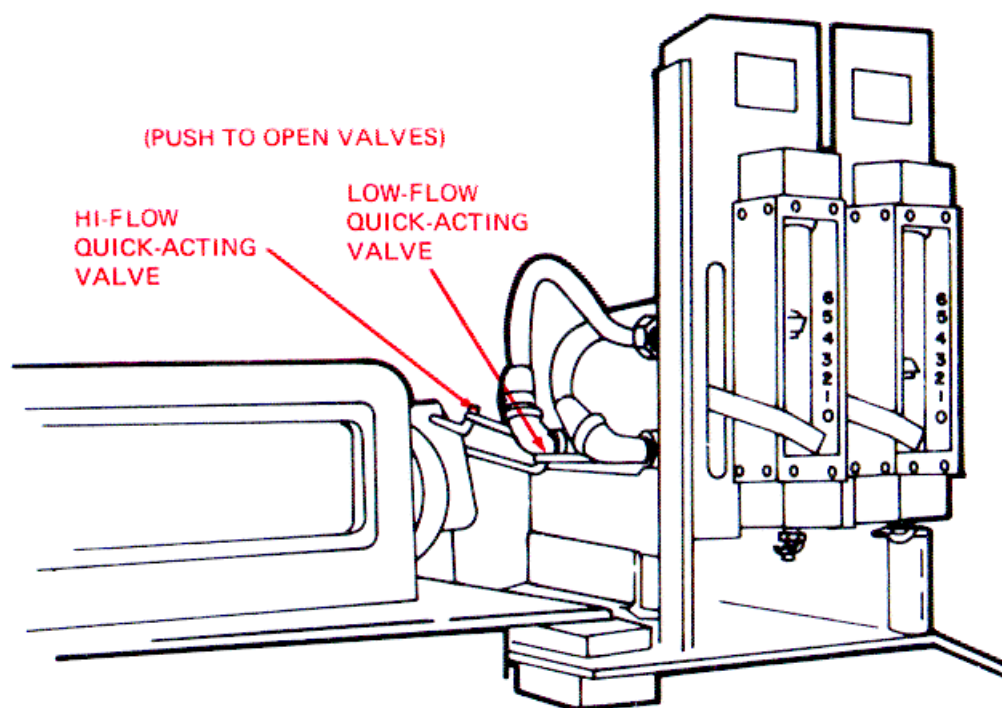

Figure 3-9. Quick-Acting Valves and Flowmeters.
- (3) Open the air gate valve.
- (4) Go to the control area. Manually open the quick-acting valve of the system you are flushing. (Pull out on the valve stem.) (See fig. 3-9). Release the valve when the flowmeter has been completely rinsed out.